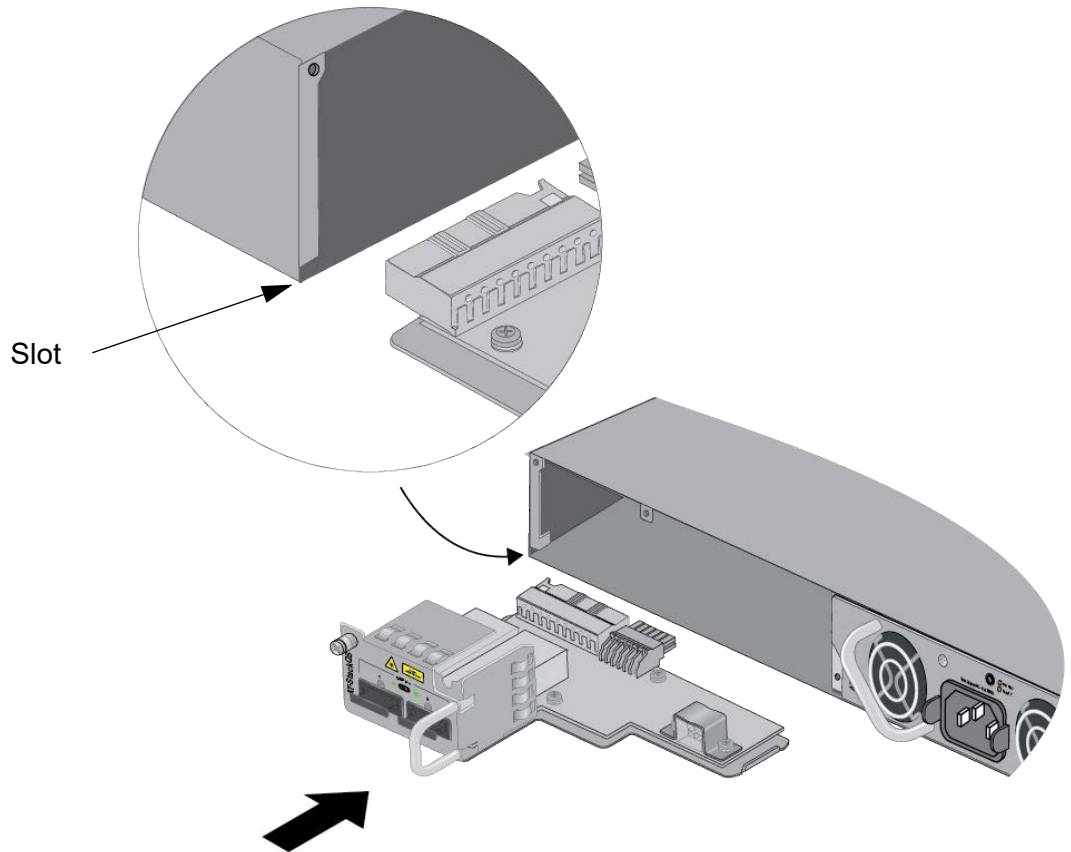

Figure 33. Aligning the Card in the Slot
8. Carefully align the card in the slot and slide it into the switch. The left edge of the card fits into the slot in the bottom corner of the switch. Refer to Figure 33 on page 83.